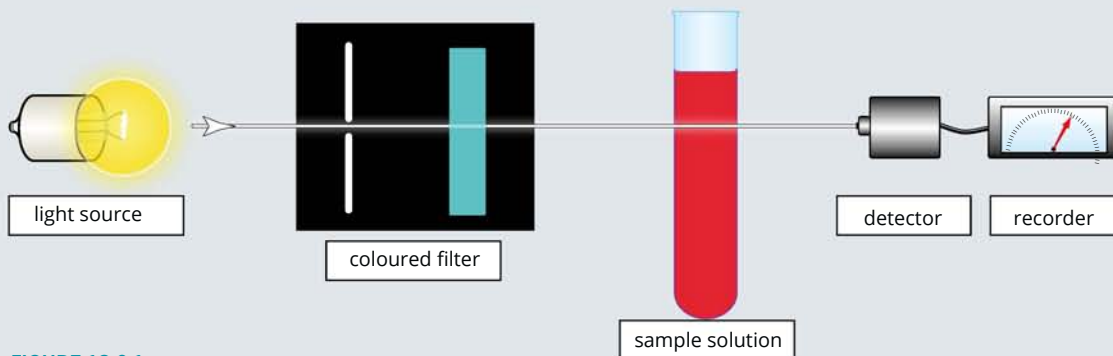

FIGURE 18.6.1
- 16 Label the parts of the diagram of a UV-visible spectrometer in Figure 18.6.1.